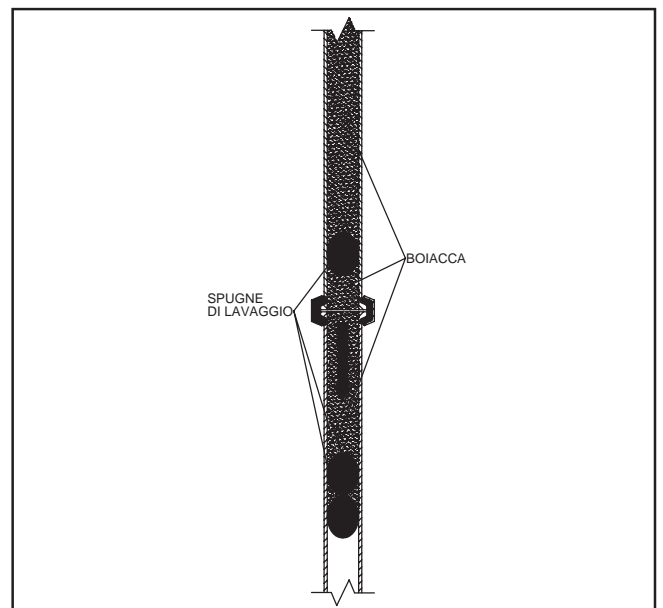

FIG.14
- introduce two wash sponges in the piping's initial section (FIG.14).